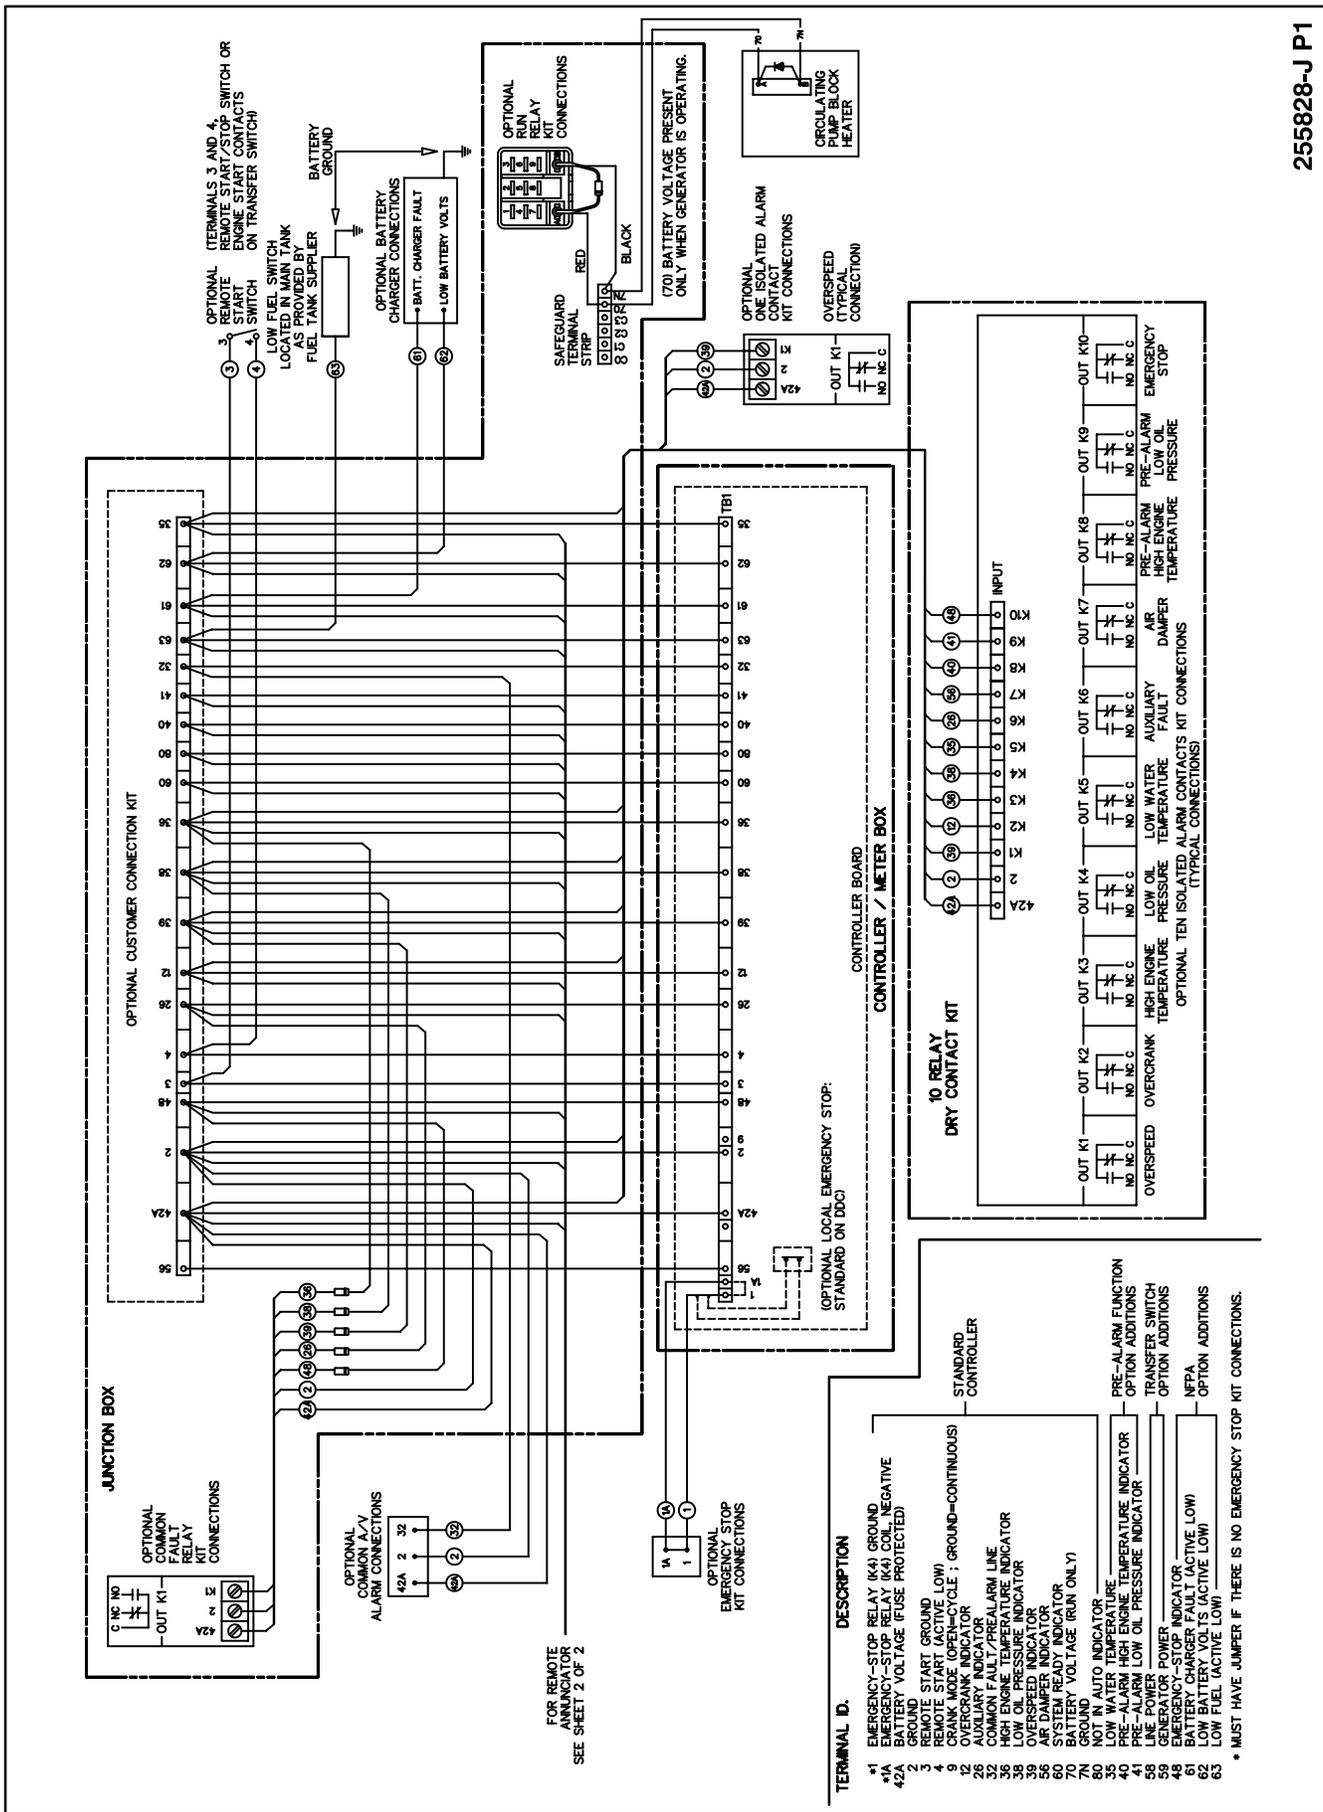

Figure 1. Wiring Diagram
5. Using customer-supplied wiring, connect leads between controller terminal strip and terminal strip in customer connection box. See Figure 1. Leads 42A and 2 are voltage supply and should be sized according to load and distance using stranded copper wire. To determine the gauge of these leads, calculate the total distance between controller and remote annunciator or customer-supplied warning devices.
7. Locate Dry Contact Kit as close as practical to customer connection kit in order to eliminate electrical interference. Using customer-supplied wiring, connect leads between terminal strip in customer connection box and dry contact kit. See Figure 1. See dry contact kit instructions for further information.